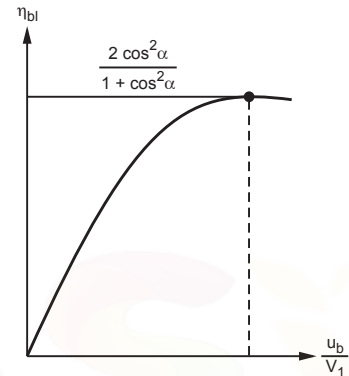

Fig. 3.35
- The variation of blade efficiency with respect to speed ratio  $\left(s = \frac{u}{V_1}\right)$  is shown in Fig. 3.35.